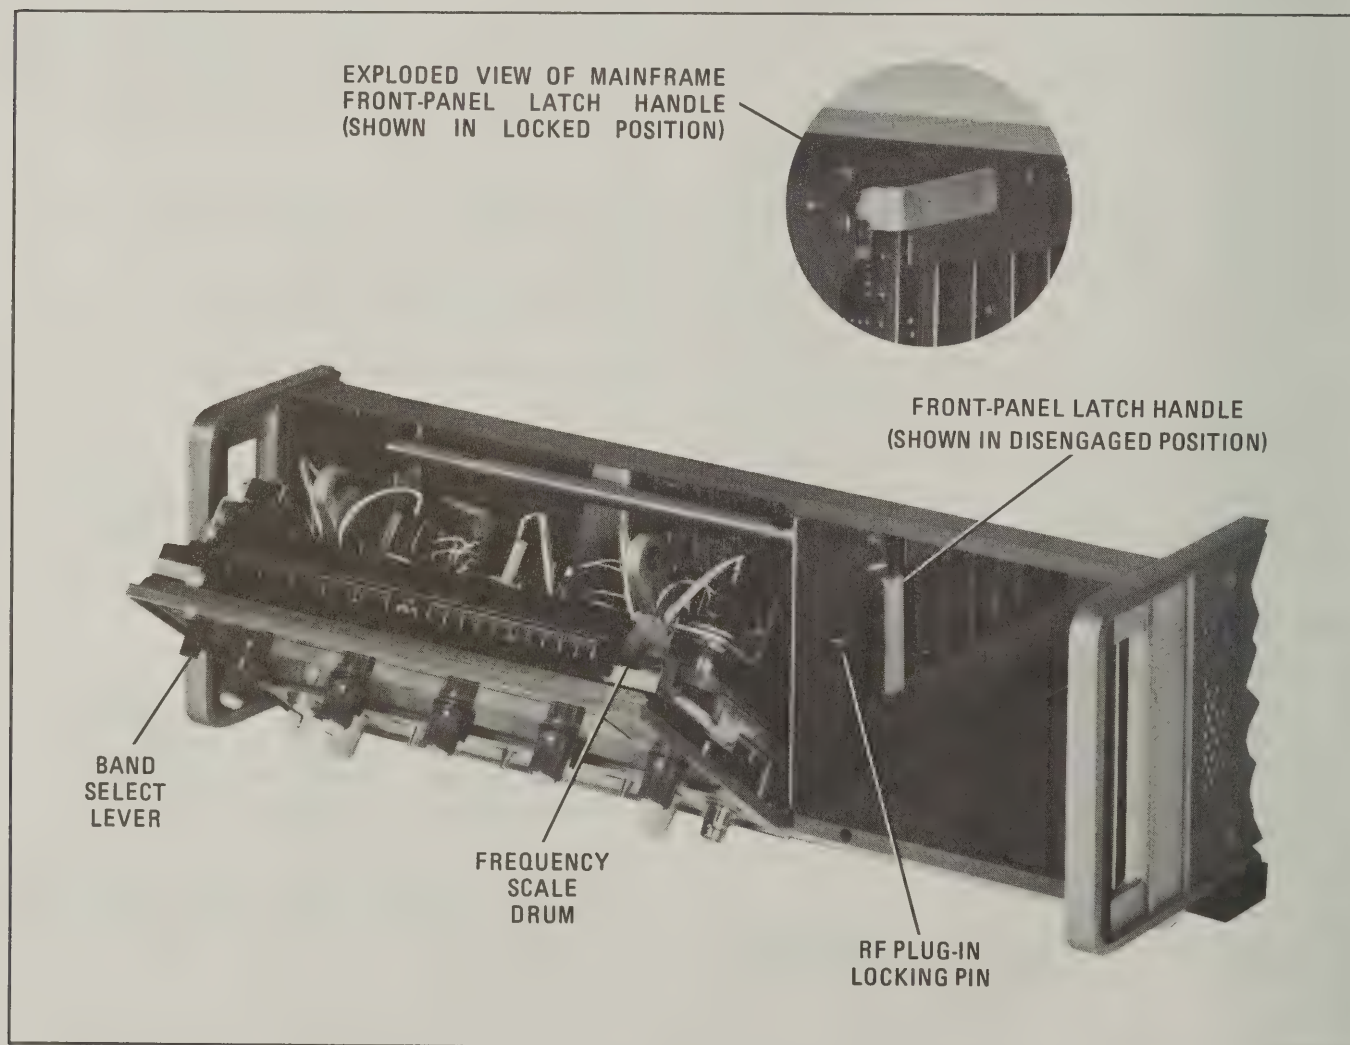

Figure 2-1. Location of Mainframe Parts Pertinent to Frequency Scale and RF Plug-In Installation
If mainframe has two screws on top of the front panel (See Figure 2-1), RF Plug-In does not have to be removed. Remove both screws and go to step b.
- a. Disengage mainframe front-panel latch handle, shown in Figure 2-1, by pushing downward on handle while pushing inward lightly on top of front panel.
- c. Depress mainframe front-panel BAND select lever, shown in Figure 2-1, to rotate frequency scale drum until desired scale position is accessible.
- f. Return front panel to upright (closed) position. If front panel was secured with two screws (see Figure 2-1), replace screws. If not, while pushing inward lightly on top of front panel, re-engage front-panel latch handle by pushing it upward to lock position as shown in Figure 2-1, exploded view.
- c. Slide RF Plug-In into mainframe towards rear of compartment. RF Plug-In latch handle will engage a locking pin, shown in Figure 2-1, inside mainframe and exposed portion of latch handle will start to move downward.
- b. When exposed portion of latch handle is in a position perpendicular to RF Plug-In front panel, it is disengaged from locking pin (Figure 2-1) and RF Plug-In may be removed by pulling forward on latch handle.